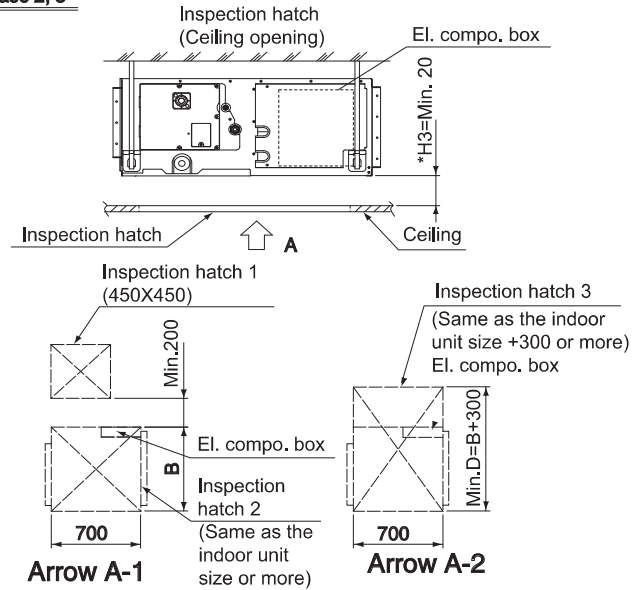

Fig.2-3
2. Inspection hatch 1 (450 × 450) on the control box side and inspection hatch 2 on the bottom of the product.(Fig. 2-3, arrow A-1)
3. Inspection hatch 3 on the bottom of the product and on the bottom side of the control box, see direction view A-2 (Refer Fig. 2-3)